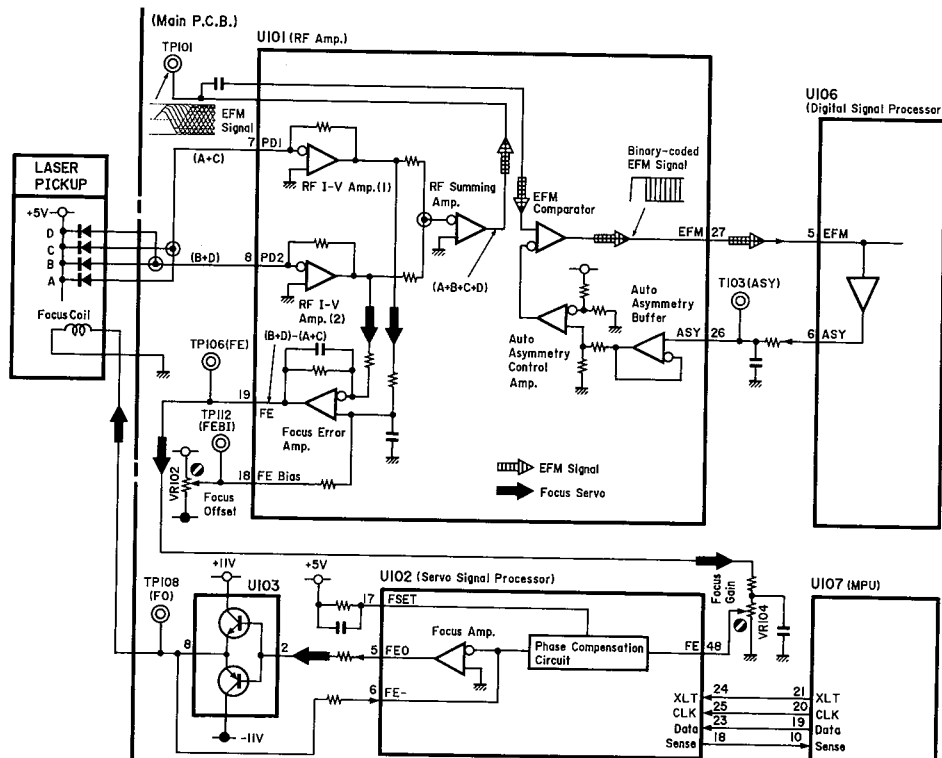

Fig. 8.1.2 Focus Servo & Binary-coded EFM Signal Generation Circuit
- Fig. 8.1.2 on the next page shows the focus servo circuit.
See Fig. 8.1.2. The current inputs (A + C) and (B + D) are converted into voltages by the RF I-V Amp. (2) and (1), and summed by the RF Summing Amp. The output (A + B + C + D) of RF Summing Amp. is called the EFM signal (eye pattern). It is sent to the non-inverting input of the EFM Comparator. On the other hand, to the inverting input of the EFM Comparator, the Auto Asymmetry Control Amp. output is applied. This Amp. determines the slice level of the EFM signal and the binary-coded EFM signal is output from the EFM Comparator. The binary-coded EFM signal is sent to U106 (Digital Signal Processor) for EFM demodulation.